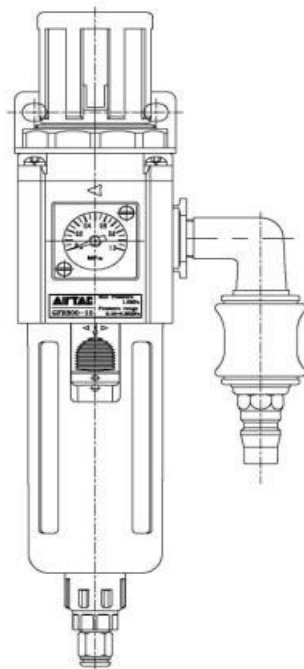

图 4-3-1
6. air pressure device: connect to the air pressure source and set the pressure gauge of the filter at 6 f/cm2 (Figure 4-3-1).